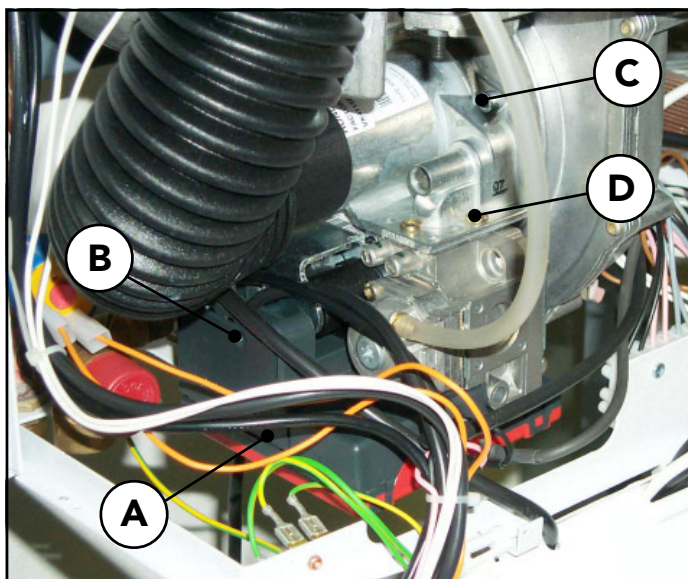
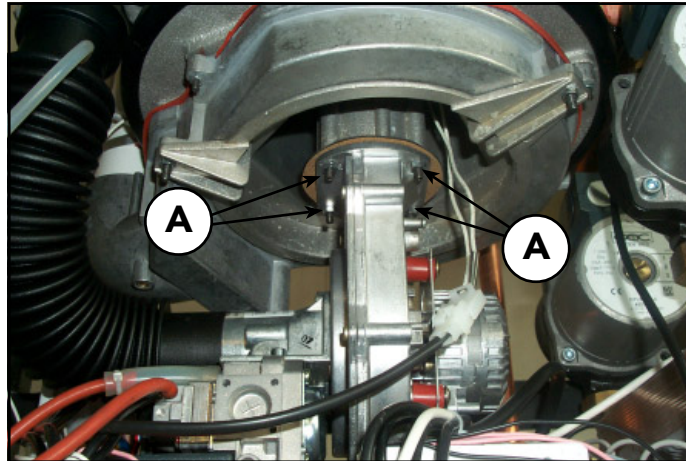

Fig. 24
Fig. 25
- Remove the ignition device "A" (fig. 24) from the valve body, removing the fastening screw "B" (fig. 25)
- Unscrew the four nut "A" fixing the fan (fig. 25)
- Unscrew the fastening screws "C" (fig. 24) and remove the Venturi unit + gas valve